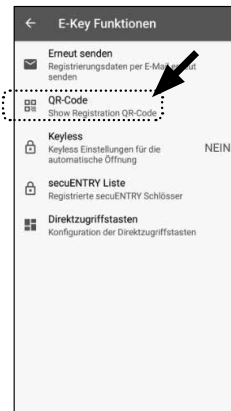

Fig. 40
- 5 In the next menu, tap on "QR code" (Fig. 40), after which a QR code is displayed on the entire screen.